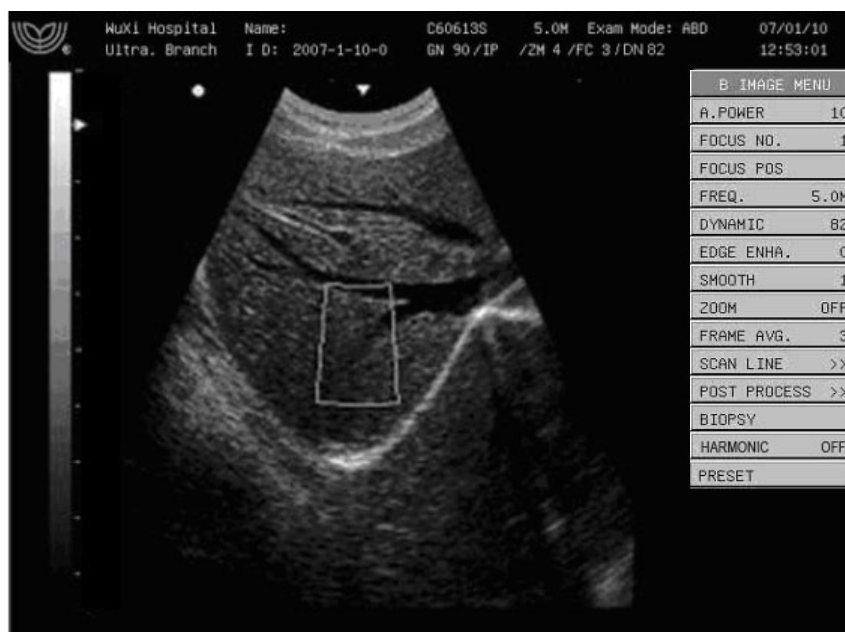

Fig. 6-9 Zoom in the image
2. Turn knob, the interface will display the desired zoom mode (From ZM 1 to ZM 4), and the sample frame will appear in the center of the screen, like Fig.6-9.